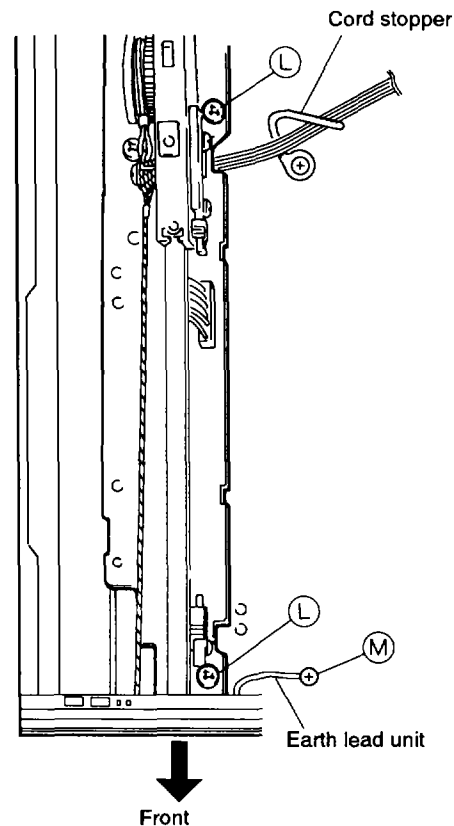

Fig. 6
• Disassembling the Loading Mechanism Section (Fig. 6)
2. Remove the two screws (L) fixing the loading mechanism section and the lead wires from cord stopper.
3. Remove the screw (M) fixing the earth lead unit.